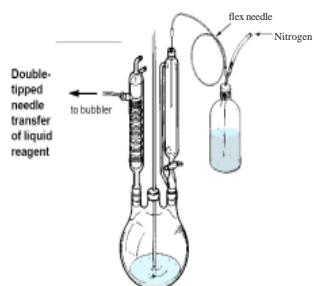

Fig. 3A Double-tipped needle transfer of liquid reagent
- Pressurize the Sure/Seal bottle with nitrogen and then insert the double-tipped needle through the septum into the headspace above the reagent. Nitrogen will pass through the needle. Insert the other end through the septum at the calibrated addition funnel on the reaction apparatus. Push the needle into the liquid in the Sure/Seal reagent bottle and transfer the desired volume. Then withdraw the needle to above the liquid level. Allow nitrogen to flush the needle. Remove the needle first from the reaction apparatus and then from the reagent bottle. (**Fig. 3A**)